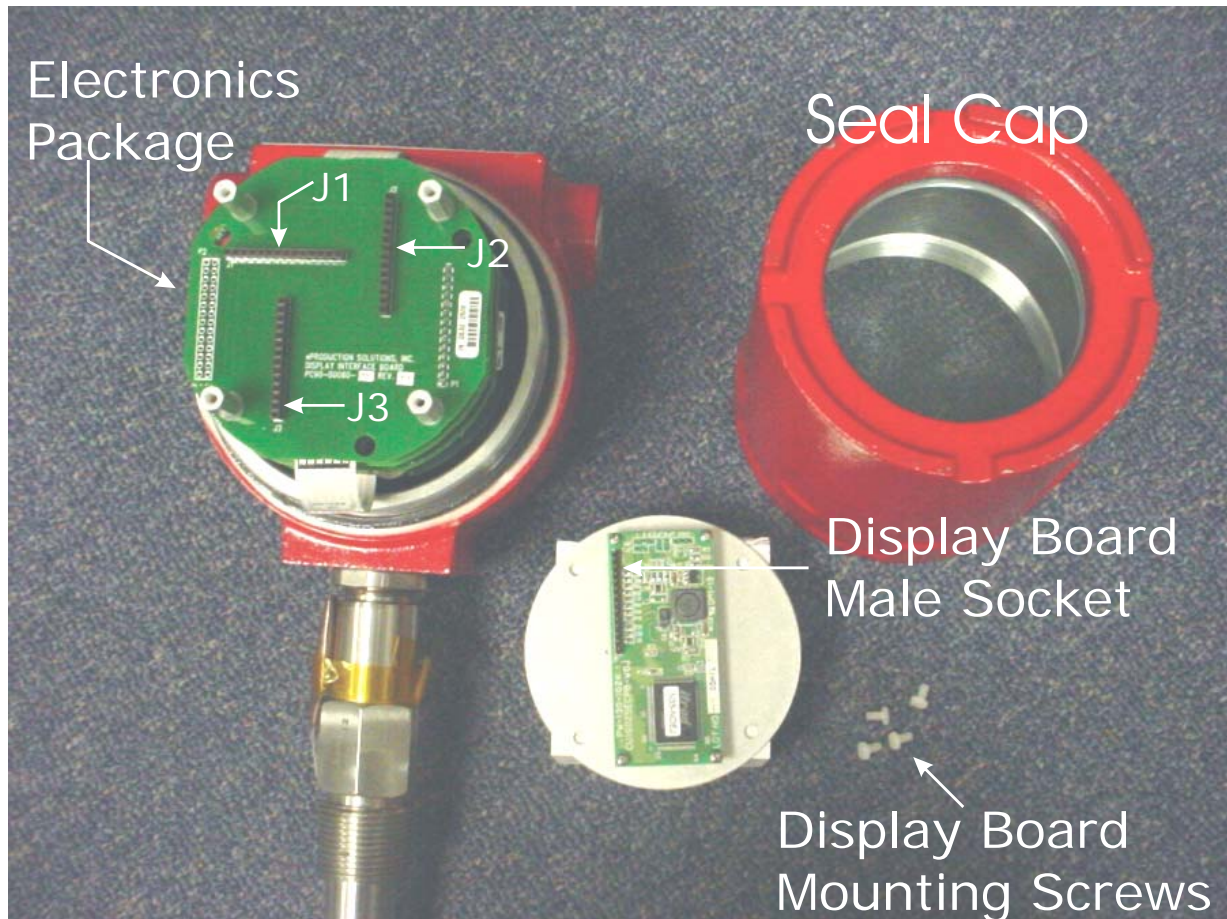
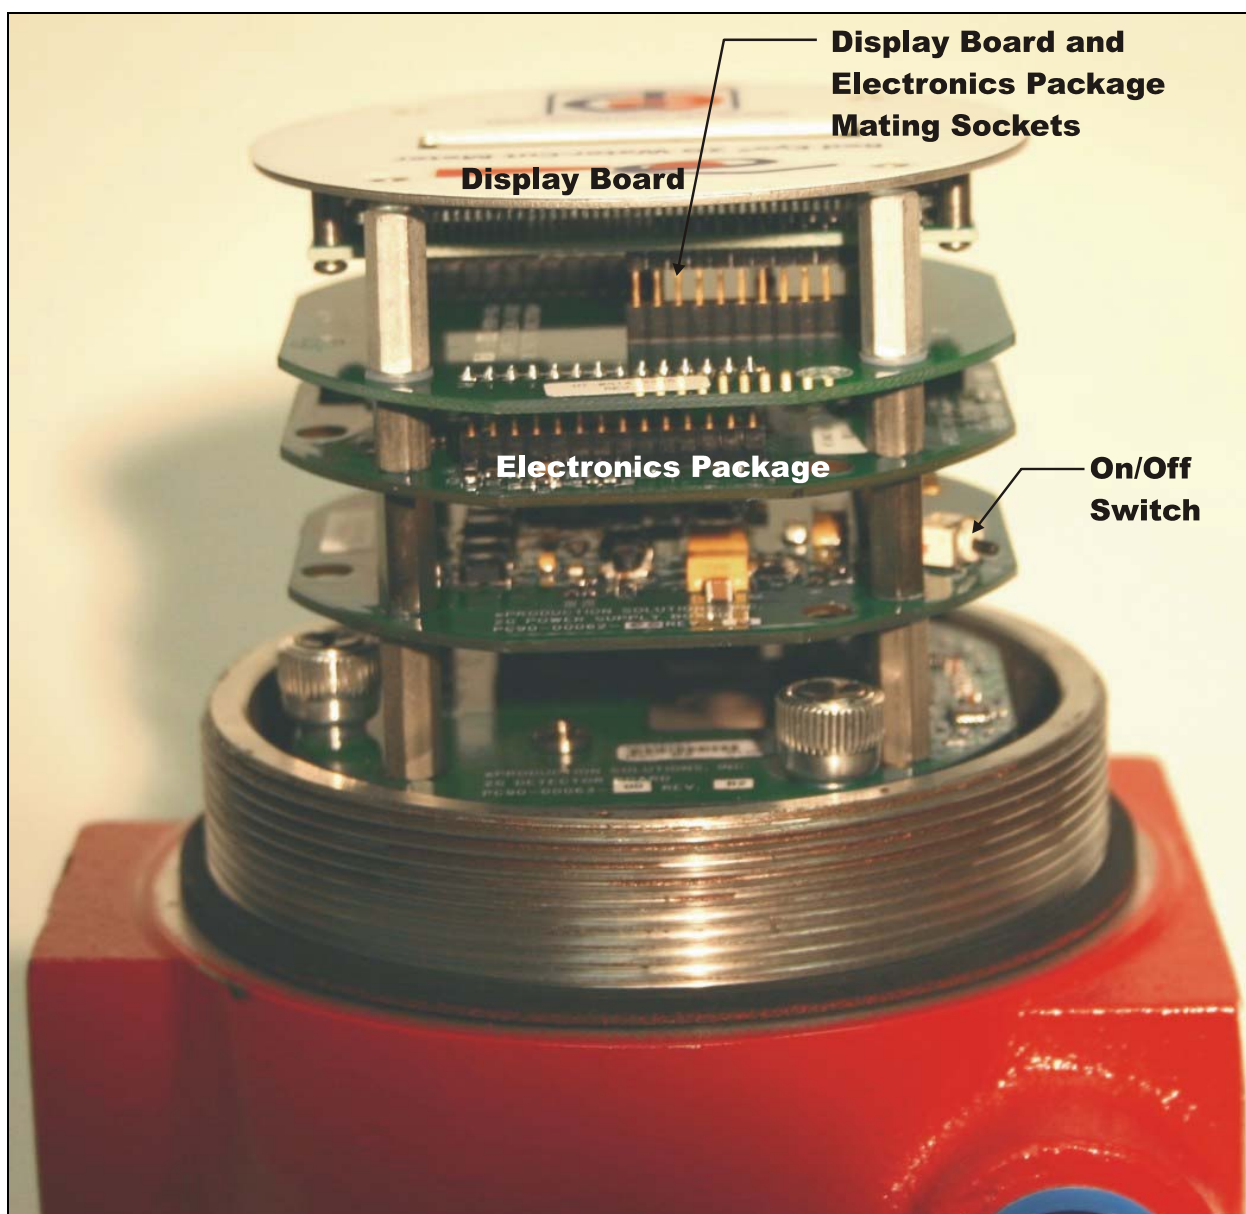

Figure 9: Display Board Removed Revealing Connector Sockets
Figure 10: Display Board Being Plugged In
3. Remove the display board by pulling straight up and set it aside. See Figure 9.
4. You will notice that there are 3 socket connectors on the electronics package board, J1, J2, and J3. The display board can plug into any of the three. Rotate the display so that it is viewable as desired and carefully plug the display board back into any plug that is correct for your viewing. Be sure that all the pins are lined up in the female plug before pushing down on the display board to firmly seat the plug. See Figure 9 and Figure 10.
NOTE: The unit comes from the factory with the power switch ON (Figure 10). Once power is applied to terminals T2-1 & T2-3, the unit will power up.